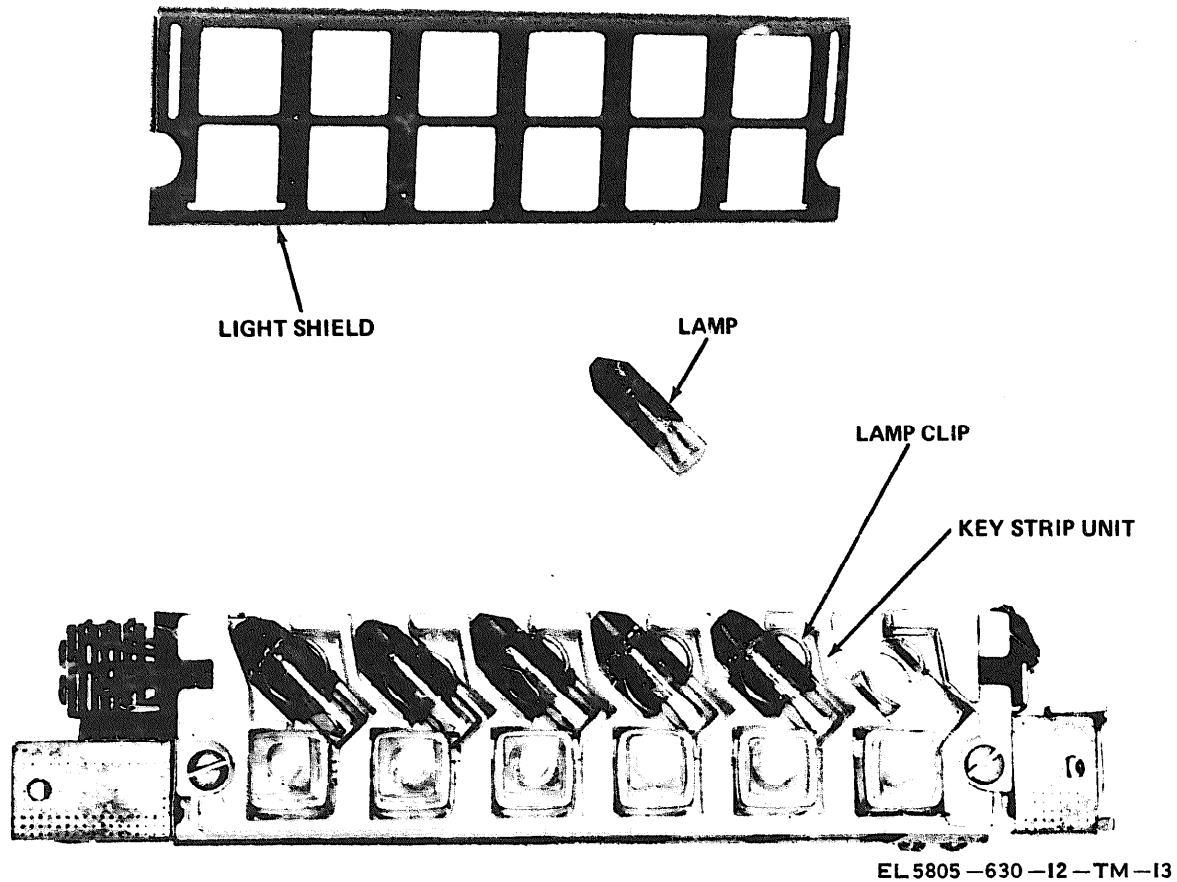

Figure 4-1. Lamp indicator key strip, replacement diagram.
*a. Lamp Replacement Call Commander (fig. 4-1).*
(1) Remove the clear plastic face plates and face mat from the telephone housing by lifting the top part of the face mat away from the housing.
(2) Remove the light shield from the key strip unit in which the lamp is to be replaced.
(3) Using a thin-bladed screwdriver, turn the lamp until the flat portion (clipside) of the wedge-shaped lamp base is facing up. Then, work the blade of the screwdriver under the lamp base and pry the lamp out of the clips.
(4) After the lamp pops up it can be removed by gently prying it up with a screwdriver blade.
(5) Press a new lamp (10ESB) in place in the clip with metal sides of lamp against the clip, pressing it firmly into place.